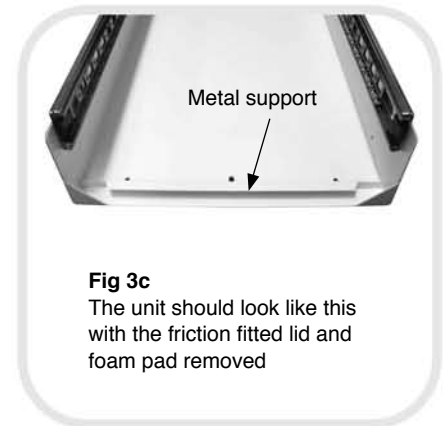

Fig 3c
- Simultaneously, pull the friction fitted lid forwards until it clears the top mounting panel (fig 3c).
the hooks and drop into location. Whilst this is happening, with the other hand push the front of the lid upwards to ensure it rests on the metal support - located at the front of the top mounting panel (fig 3c).